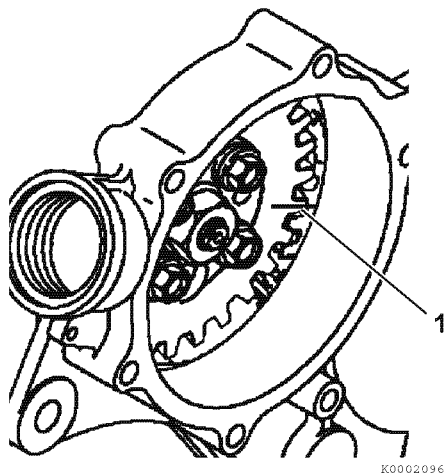

Figure 7-11
- To aid in reassembly, make reference marks (Figure 7-11, (1)) on the drive gear and idler gear.